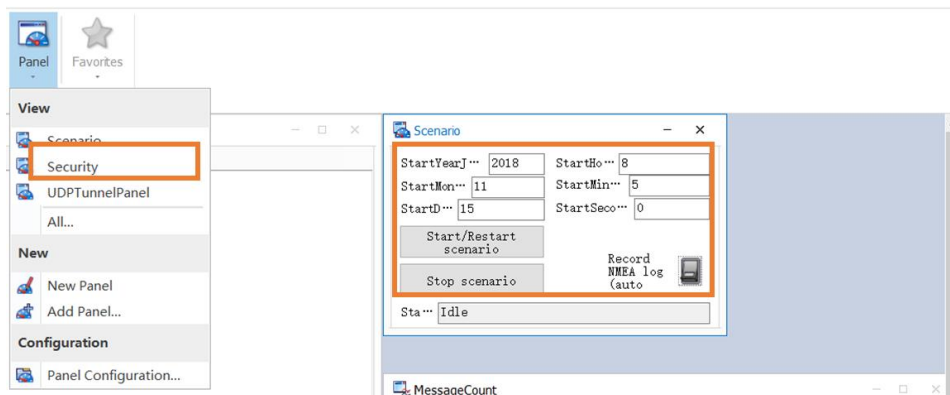

Figure 22: Starting the scenario
- Run the CANoe program, open the Scenario front panel, and configure the start time of GNSS simulation, as shown in the example (Figure 22).